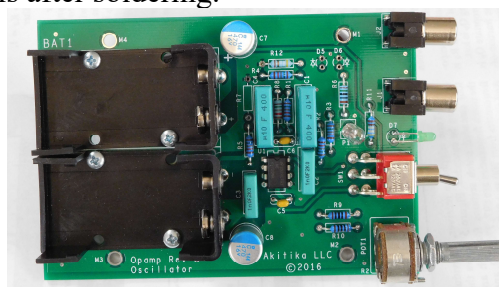

Figure 4-Battery Holder Installation
Install both battery holders as shown in Figure 4.
- Use #4-40x5/16" Phillips screws and 4-40 keps nuts to fasten the battery holders to the PCB. Use a total of 4 screws and 4 nuts as shown in Figure 4.